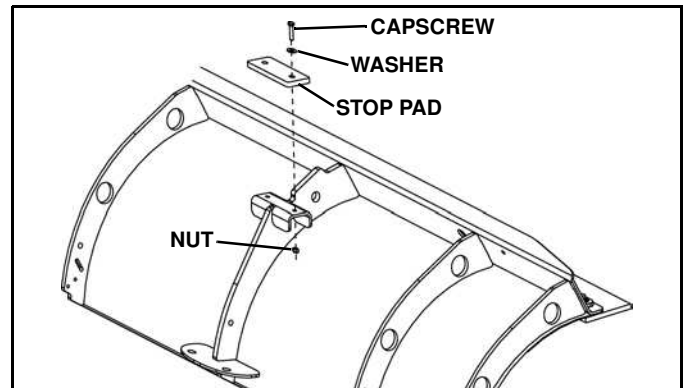

Figure 1-4
3. Install a stop pad to one side of the blade using two cap screws, two flat washers and two nuts. (See Figure 1-4).